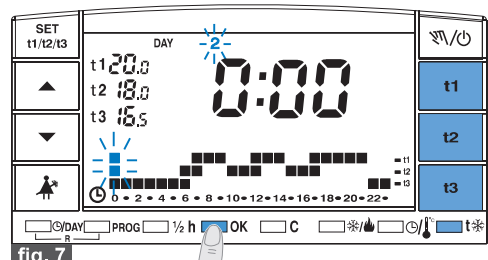

fig. 7
When **OK** is pressed to confirm, the program set for Monday is saved in the memory, the dash will blink under Tuesday (2) and the digits relative to the time 0:00 will blink over the temperature scale for the previous day (fig.7 on the following page).